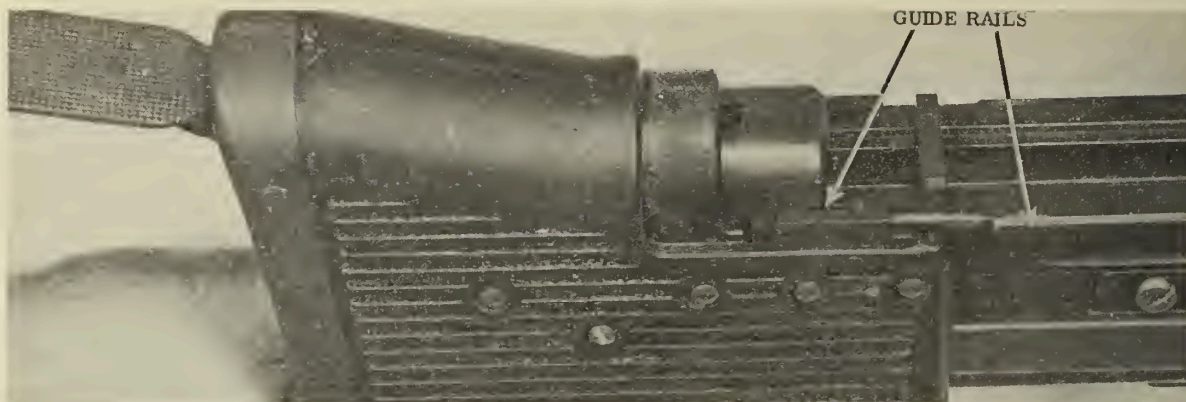

Figure 24. --Replacing the Butt Stock Group.
(1) Align the guide rails on the butt stock with the guide rails on the receiver. (See fig. 24.)
(2) Push the butt stock forward until it is fully seated. A distinct click will be heard when the latch engages. The machinegun is now fully assembled.